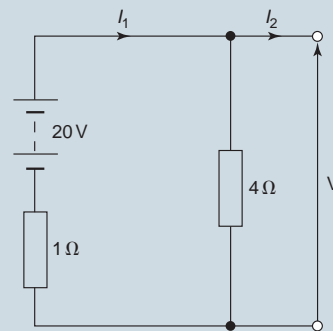

Figure 15.97
13. For the circuit shown in Fig. 15.97, voltage V is:
14. For the circuit shown in Fig. 15.97, current I_1 is:
15. For the circuit shown in Fig. 15.97, current I_2 is: